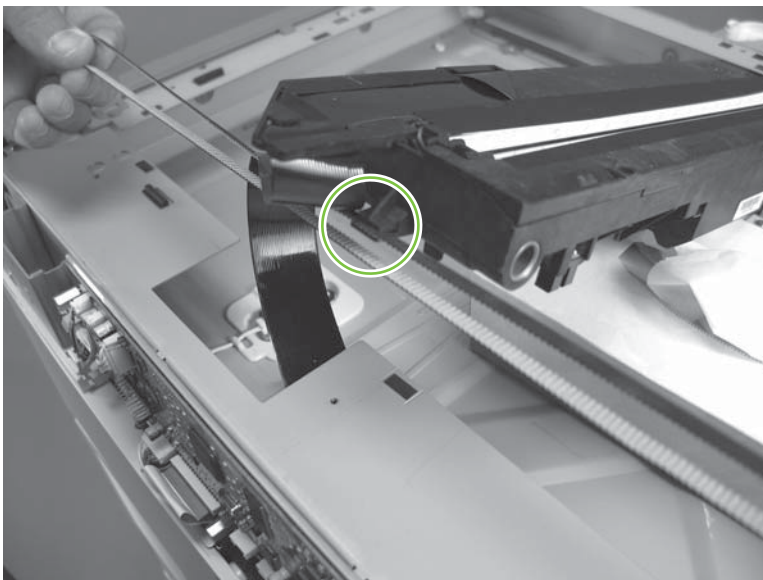

Figure 5-101 Remove the scanner optic assembly (6 of 13)
8. Figure 5-101 Remove the scanner optic assembly \(6 of 13\) on page 242 shows the optic assembly and drive belt removed from the scanner bed. Note how and where the drive belt engages the optic assembly. Proceed to the next step to release the drive belt from the optic assembly.